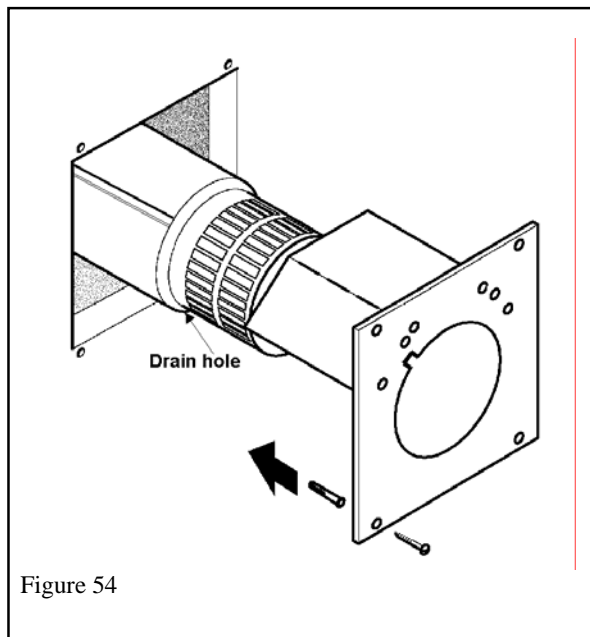

Figure 54
2. Fit the vent unit fully over the appliance inlet and outlet collars pushing on firmly. *Make sure that the drain hole is at the bottom – the seam will be through the notch in the wall plates – See figure 54.*
- See figure 54.